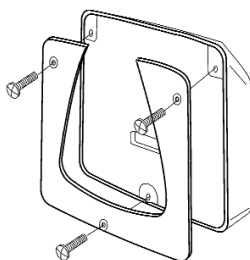

Fig. 1
1. Using the three supplied M4 bolts attach the back plate to the rear of the display (Fig.1).